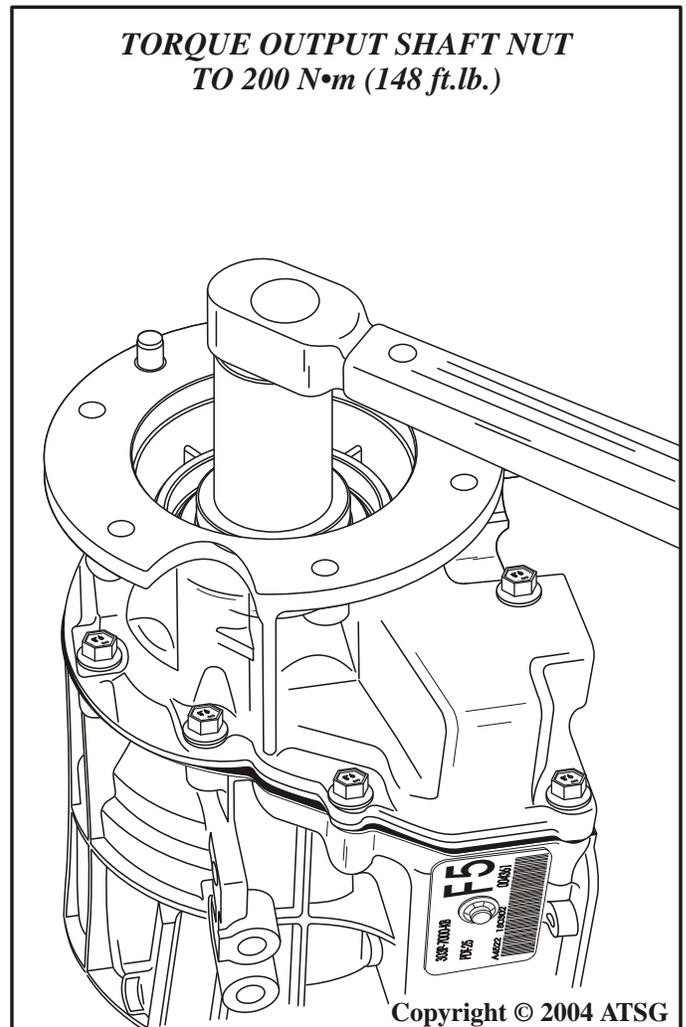

Figure 72
34. Torque the output shaft nut, using 1/2" drive torque wrench, to 200 N•m (148 ft.lb.), as shown in Figure 72.